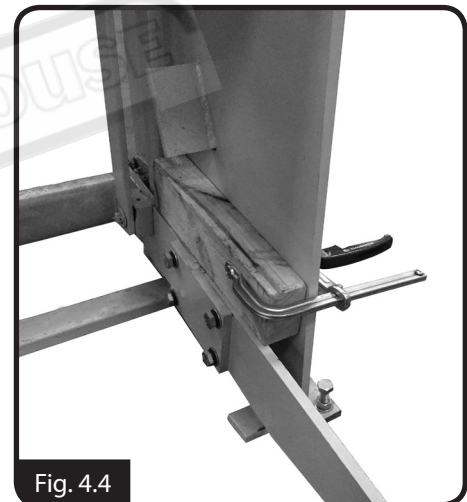

Fig. 4.4
2. Press down the foot pedal until it reaches the bottom position, then clamp the pedal as shown in Fig.4.4